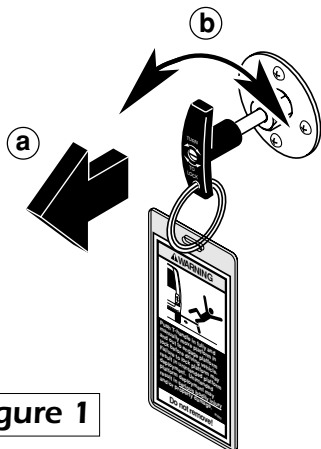

Figure 1
1. **a.** Pull "T" handle release cable outward and **b.** turn "T" handle to lock platform into the released position (see Figure 1).